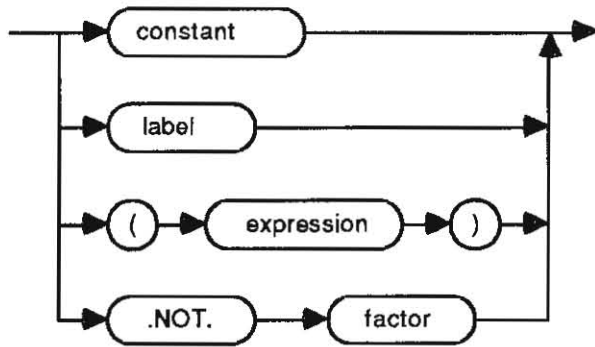

Figure 3-4. Syntax of a Factor
A term is a factor, optionally followed by one of the operators \*, /, .AND., or | (the bit shift operator) and another factor. Figure 3-4 shows the syntax of a term. .AND. is a logical operator, asking if the terms on either side are true. If both are true, so is the result, otherwise the result is false. The vertical bar (or, optionally, !) is a bit shift operator. The first operand is shifted the number of bits specified by the right operand, with positive shifts shifting left and negative shifts shifting right. Thus, a|b is the same as a\*(2^b). It is important to note that logical operators perform word comparisons, rather than bit-wise operations.
A factor, as shown in Figure 3-4, is a constant, label, or expression enclosed in parentheses, or a factor preceded by `.NOT.` `.NOT.` is the Boolean negation, producing true (1) if the following factor is false, and false (0) if it is true. Here, a label refers to a named symbol that cannot be resolved at assembly time. Constants are named symbols defined by a local `EQU` directive or global `GEQU` directive, or a decimal, binary, octal, or hexadecimal number, or a character constant.